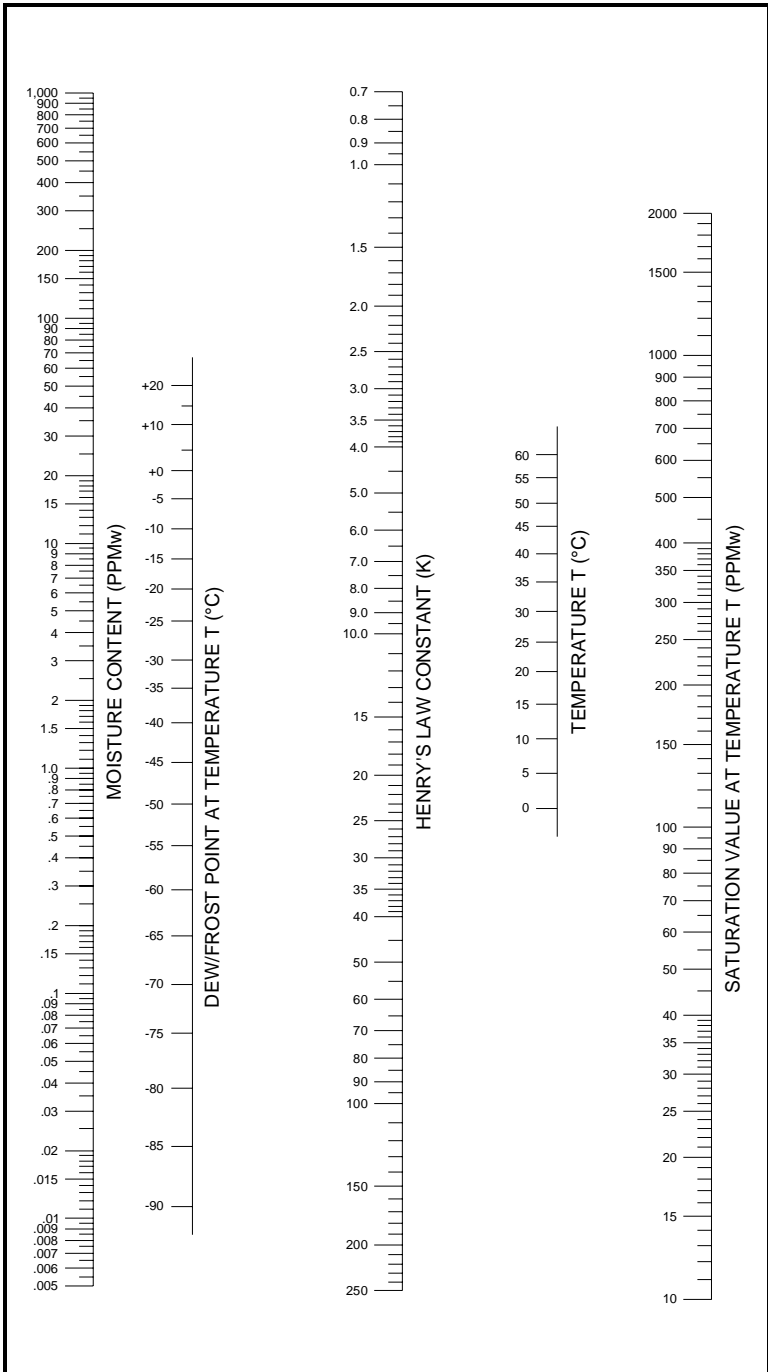

Figure A-2: Moisture Content Nomograph for Liquids
The nomograph for liquids in Figure A-2 can be used to determine the moisture content in an organic liquid, if the following values are known:
If the values of K and C_S are not known, the GE Panametrics hygrometer can be used to determine these values. In fact, only one of the values is required to determine PPM_W from the nomograph in Figure A-2. To perform such an analysis, proceed as follows:
As mentioned earlier, saturated straight-chain hydrocarbons represent a special case, where the Henry's Law constant does not vary appreciably with temperature. In such cases, use the nomograph for liquids in Figure A-2 to complete the analysis.
- b. Using a straightedge on Figure A-2, connect the 870 PPM_W saturation concentration with the 30°C ambient temperature and read the Henry's Law Constant of **27.4** on the center scale.
- b. Using a straightedge on Figure A-2, connect the 480 PPM_W saturation concentration with the 50°C ambient temperature and read the Henry's Law Constant of **5.2** on the center scale.
- b. Using a straightedge on Figure A-2, connect the 101 PPM_W saturation concentration with the 20°C ambient temperature and read the Henry's Law Constant of **5.75** on the center scale.
- d. Using a straightedge on the nomograph in Figure A-2, connect the known $10 \text{ PPM}_{\text{W}}$ moisture content with the measured dew point of -10°C , and read a K value of **5.1** on the center scale.